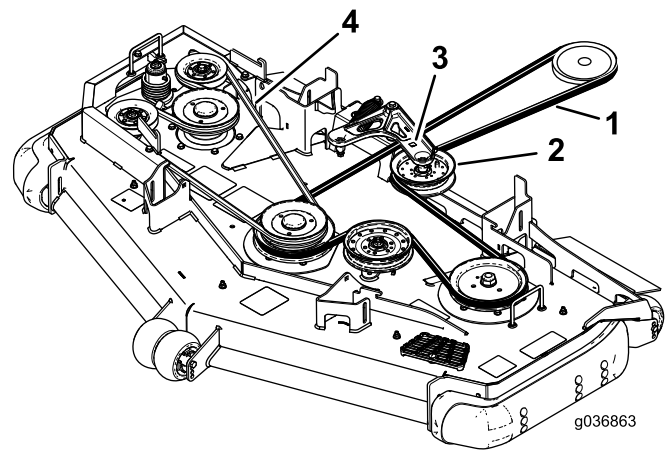

Figure 99
6. Use a ratchet in the square hole in the idler arm to remove tension on the idler spring (Figure 99).
8. Install the new belt around the mower pulleys and the clutch pulley under the engine (Figure 99).
9. Rotate and ensure the belt-guide tab hits against the pivot hub (Figure 99).
10. Using the ratchet in the square hole, install the belt around the spring-loaded idler pulley (Figure 99). Seat the spring ends in the anchor grooves.